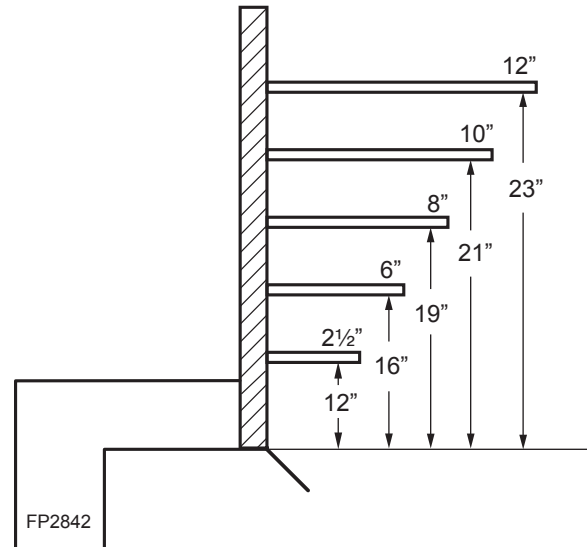
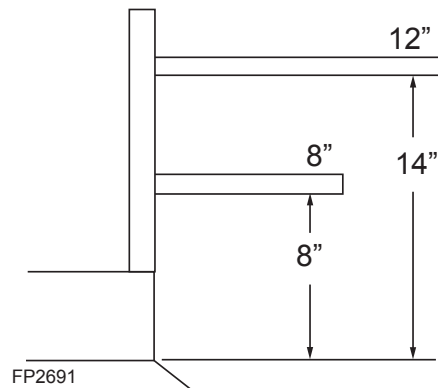

Figure 7a -
Figure 7b -
5. **Mantel clearances:** The canopy supplied with the unit must be installed. If a combustible mantel is installed, it must meet the clearance requirements as shown in *Figure 7a*. However, if lower mantel height is desired, refer to *Figure 7b*.